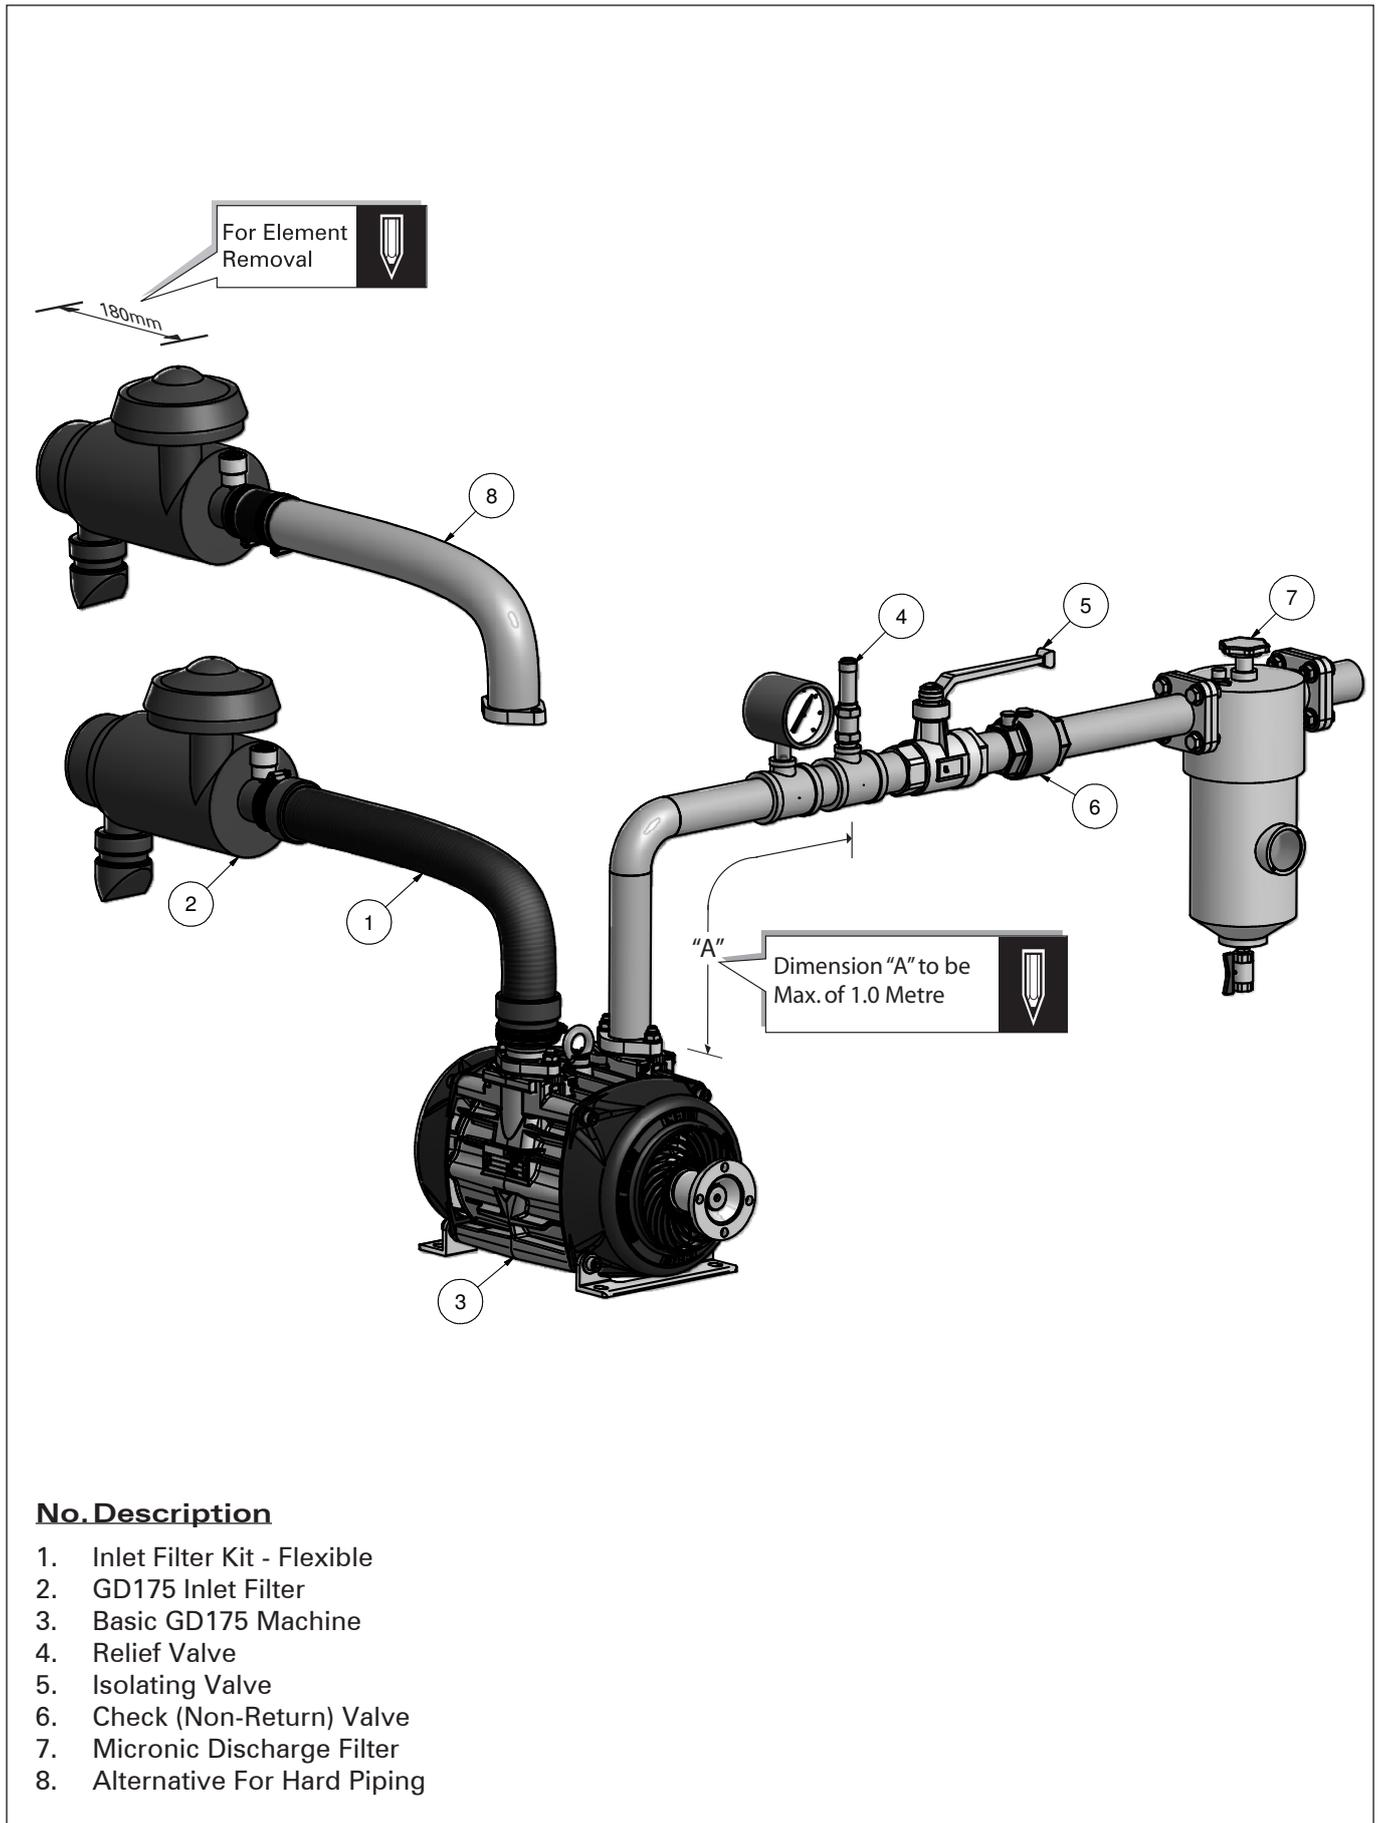

Figure1. Recommended Layout
For the recommended layout of the machine and ancillaries, see figure 1.
- The relief valve should be fitted as close as possible to the GD175 discharge port and before any other discharge ancillary (See Figure 1).
3.8 Pipe work - Figures 1 & 8 show typical pipe work layouts